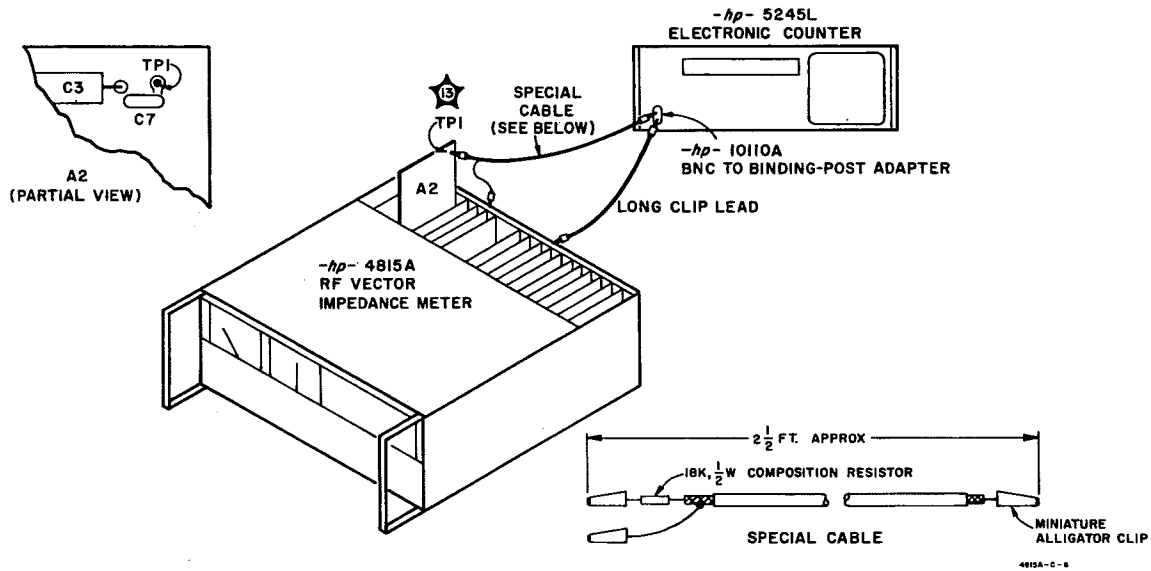

Figure 5-6. Setup for Reference Oscillator Adjustment
- a. Make connections as shown in Figure 5-6. Connect \star to Frequency Counter using special cable illustrated.
- c. Connect A2TP1, , to loose lead of A13C5 using special cable illustrated in Figure 5-6.